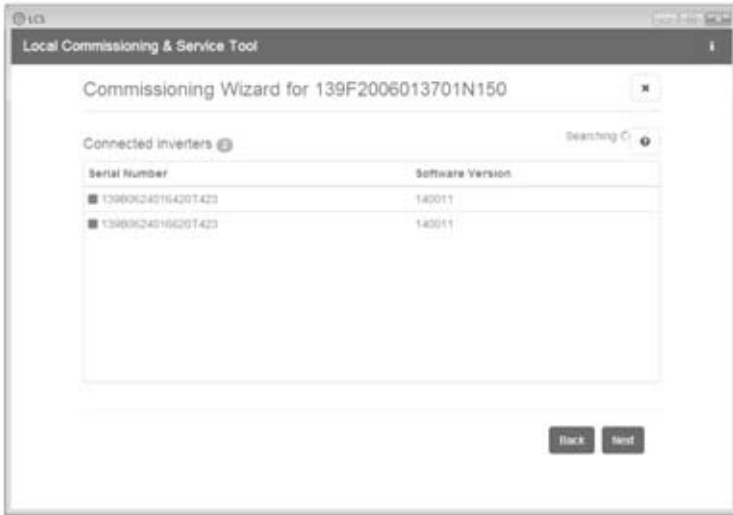

Figure 3.6 LCS tool - List of connected inverters
4. A list of inverters identified by the selected SMA Inverter Manager is shown. See figure 3.6